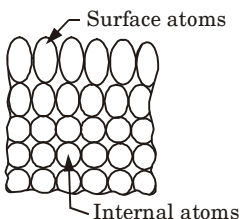

Fig. 1.12.1.
- 3. Since these surface atoms are not entirely surrounded by other (Fig. 1.12.1), they possess higher energy than internal atoms.